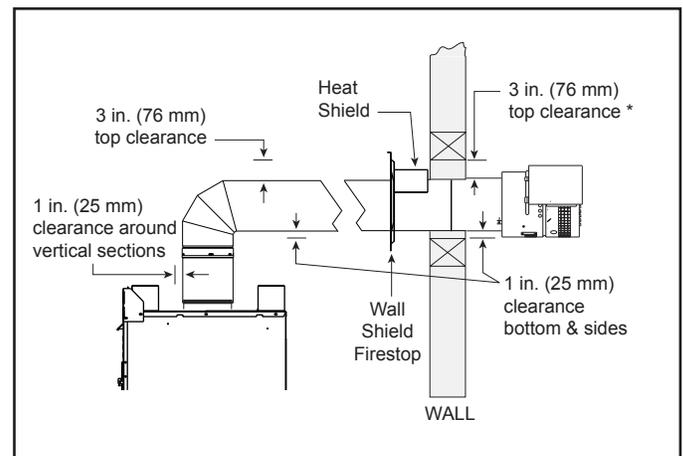

Figure 4.33
6. **CLEARANCES BETWEEN THE VENT PIPE AND COMBUSTIBLE MATERIALS MUST BE MAINTAINED AT 3-INCH TOP, 1-INCH SIDES, AND 1-INCH BOTTOM.** See Figure 4.33.
NOTE: The PVK-80 Power Vent must terminate in a **HORIZONTAL** position. See Figure 4.33.